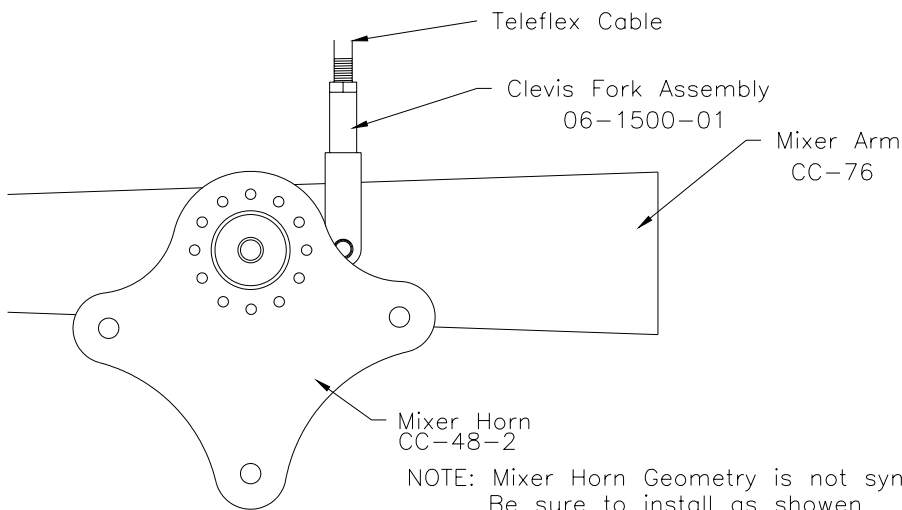

Figure 20.9.1
- 1) Attach the teleflex cable to the mixer arm with the clevis fork assembly (31800-4192). Figure 20.9.1.